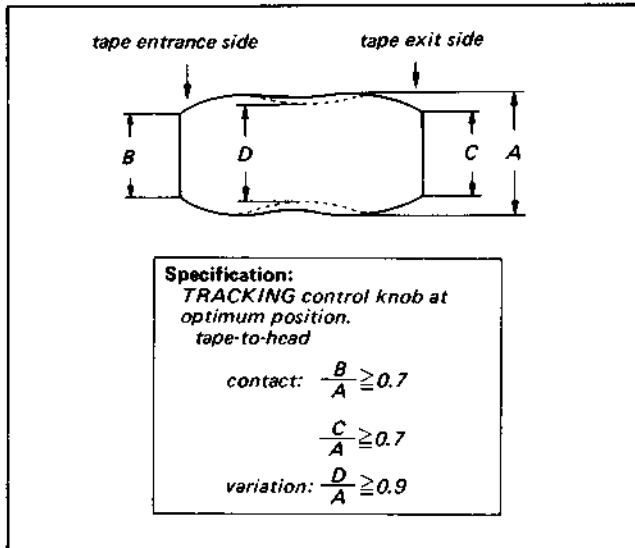
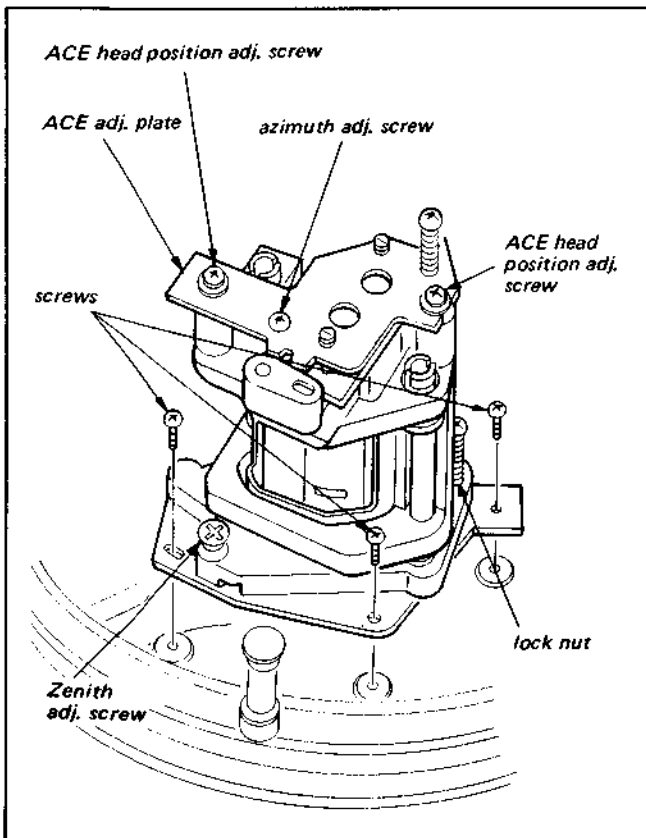

Fig. 3-45. Adjustment of tape path
Fig. 3-48. Removal of ACE assembly
5. Confirm that the fluctuation and the tape-to-head contact satisfy the specification shown in Fig. 3-45. If they do not, perform Step 6 for the adjustment.
- The ACE assembly can be removed if the three screws shown in Fig. 3-48 are removed
- Play back the 1 MHz segment of the alignment tape (KR5-1H). Confirm that the RF wave output (see Fig. 3-45) satisfies the specification and there is a minimum curl (not more than 2 mm) on the tape edge contacting the tape guide. Confirm that the RF waveform varied from the flat state when the tape guides (E) and (F) are raised and adjust the heights of the tape guides so that the waveform output becomes flat.
- When the waveform does not vary if the tape guides (E) and (F) are raised in Step 4 or when the waveform does not become flat if the tape guides are lowered, perform the adjustment, following the procedure below.
- Loosen the lock nut shown in Fig. 3-48.